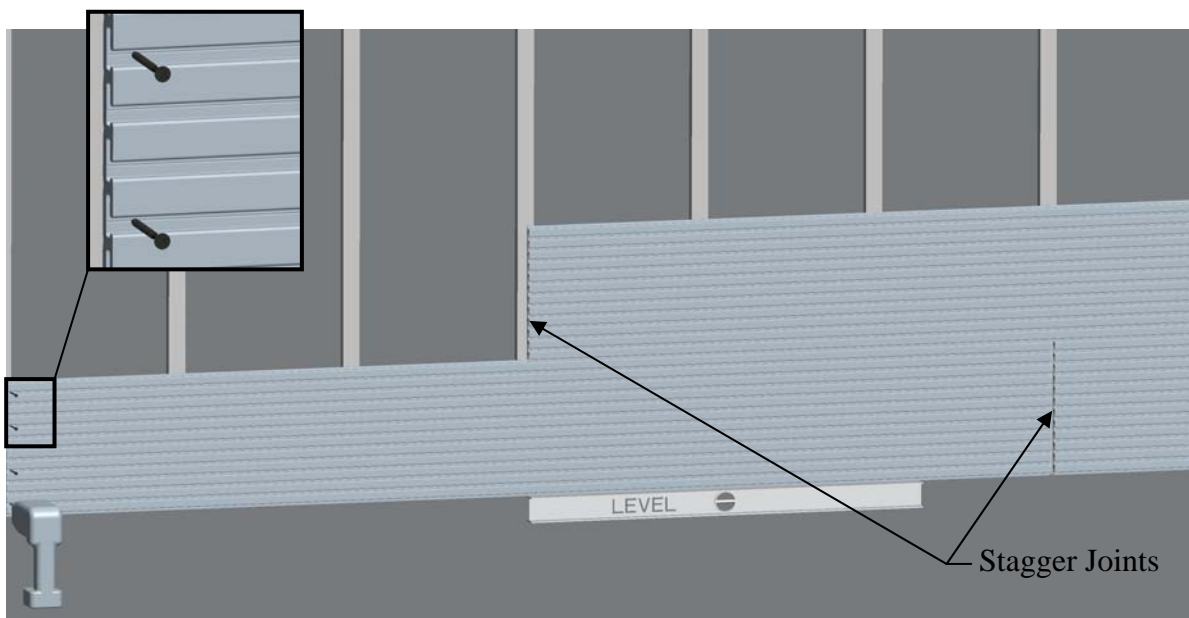

Figure 1 – Concrete Wall with Furring Strips
2. Draw a level line on the furring strips at the lowest point you plan to install IdealWall™ panels. See the enlarged view in Figure 1 for proper orientation of IdealWall™ panels. Place the first panel on the level line and place one setting screw at one end. Check level and continue to install screws left to right or right to left.
3. For maximum load capacity use four screws at each furring strip IdealWall™ panel covers. Drive the screws as shown in figure 1 until the head is flush with the panel surface.
6. Begin the second row of panels by placing a panel on top of the first row. For best results it is recommended that vertical panel seams are staggered and aligned on furring strips as shown in Figure 1. Ensure joints are fitted correctly to maintain level and spacing. Secure panels in place as described in Step 3.